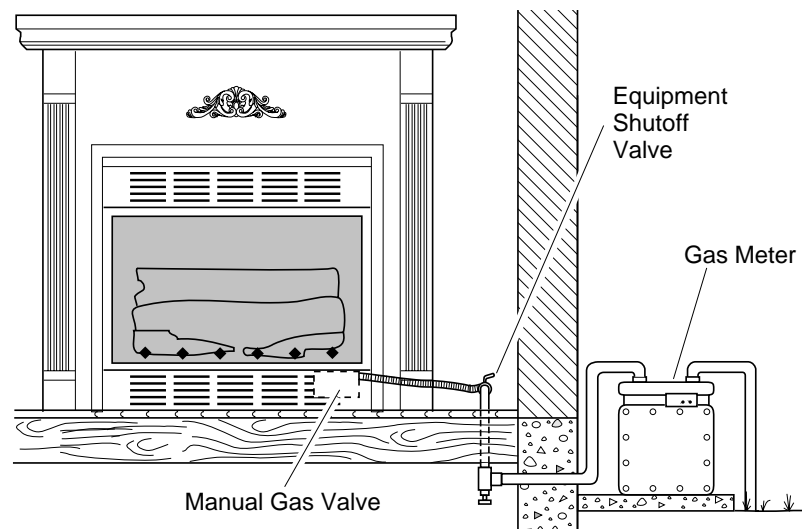

Figure 20 - Checking Gas Joints
3. Check all joints from gas meter to equipment shutoff valve (see Figure 20). Apply mixture of liquid soap and water to gas joints. Bubbles forming show a leak.
4. Check all joints from equipment shutoff valve to thermostat valve (see Figure 20). Apply mixture of liquid soap and water to gas joints. Bubbles forming show a leak.